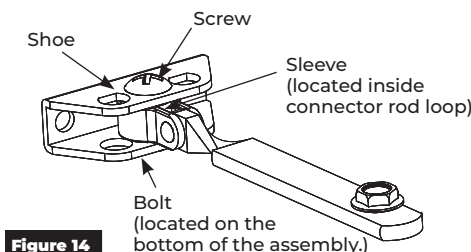

Figure 14
1. Remove the shoe from the connector rod assembly. (The shoe is used for pull mounting and will not be needed for this application.) Discard the shoe, sleeve, screw, and bolt. (Figure 14)